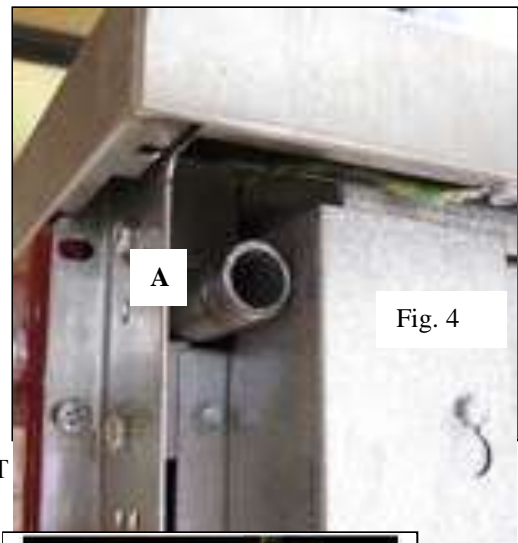

Fig. 4
- The range is a free standing unit. If the unit is to be placed next to cabinets, the clearances shown in Figure 4 are required.
Female coupling Ø 15/21, 1/2" ID NPT on A (Figure 4).